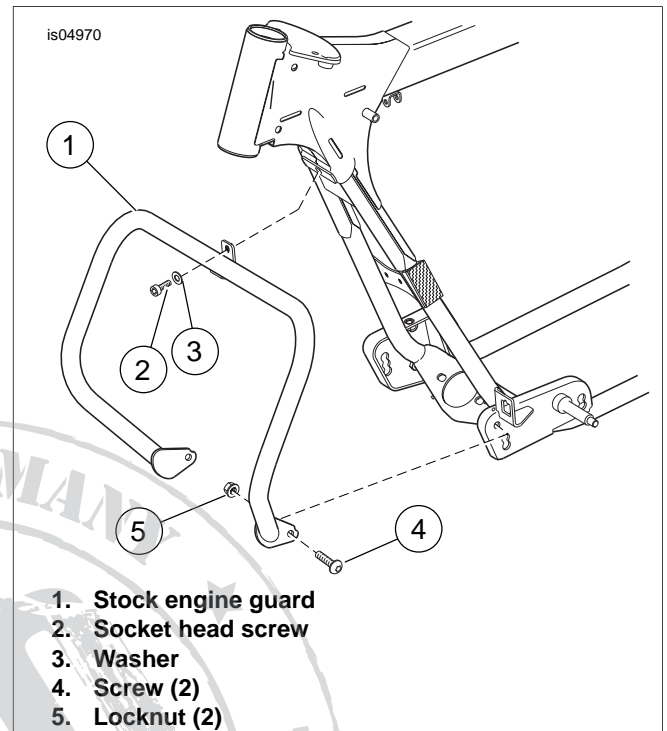

Figure 3. Install Engine Guard
1. See Figure 3. Remove and discard the two screws (4) and locknuts (5) that attach the bottom of the stock engine guard (1) to the motorcycle frame.
2. Remove and discard the hex socket screw (2) and washer (3) holding the top of the guard. Remove the engine guard from the frame, taking care not to scratch the finish on the bike.